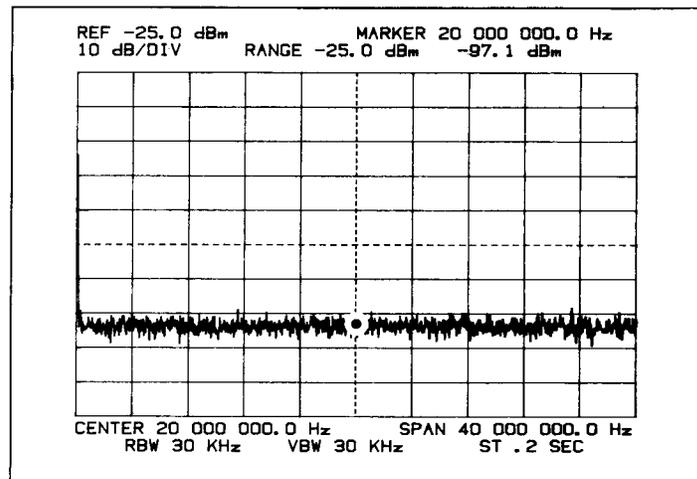

Figure 2-4. Turn-On Display
i. The CRT display should now appear as shown in Figure 2-4.